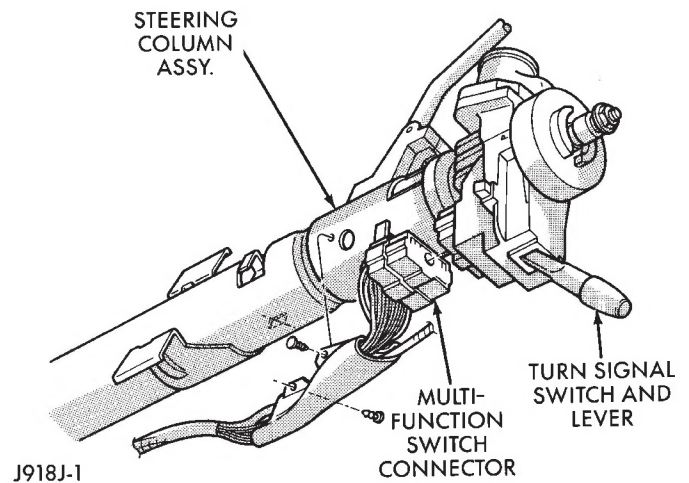

Fig. 11 Multi-Function Switch Connector
- (5) Remove lower fixed column shroud.
- (6) Loosen steering column upper bracket nuts. Do not remove nuts.
- (7) Move upper fixed column shroud to gain access to rear of multi-function switch.
- (8) Remove switch connector (Figs. 11 and 12).